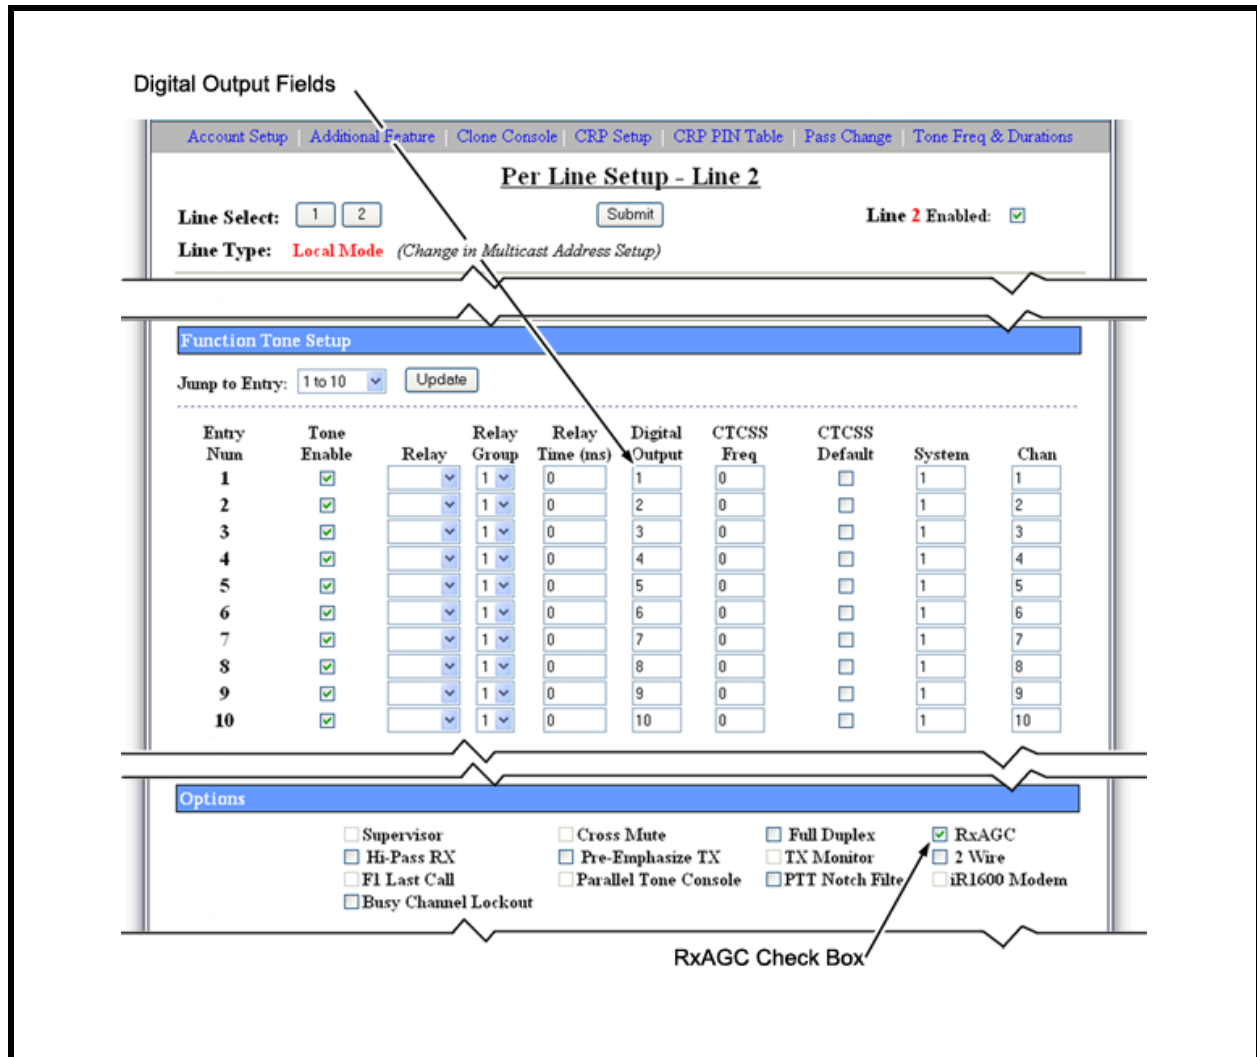

FIGURE 2. Per Line Setup Window
Using Figure 2, configure the DSP-223 for channel change using the digital outputs.
1. Using Figure 2, configure the IP-223 for channel change using the **digital output** field.